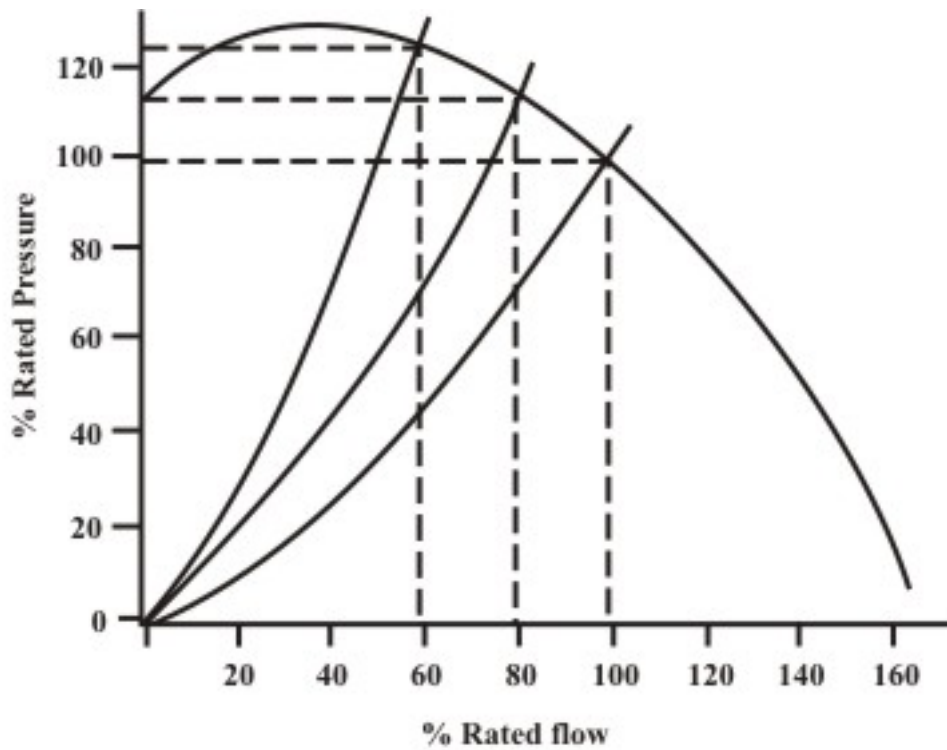
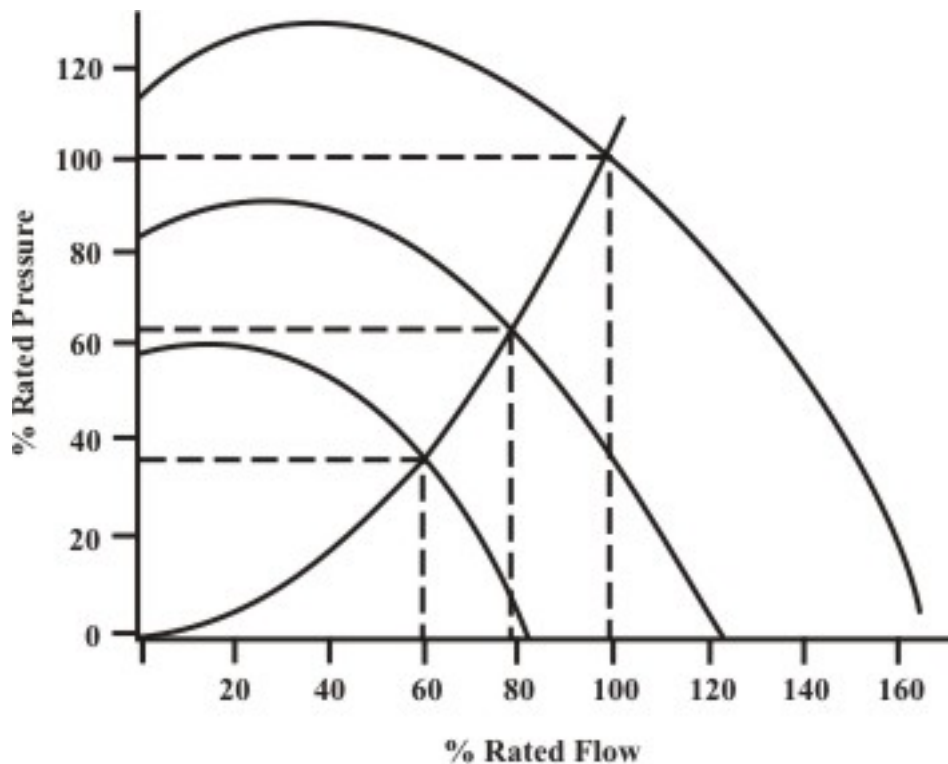

Fig. 31.5 Variations of System Pressure -Flow Characteristics with outlet dampers.
Fig. 31.7 Variable Speed Method
where P is the pressure required to produce a given flow Q in the system. K is a characteristics of the system that represents the resistance to airflow. For different values of outlet vane opening, different values of K are obtained. Fig. 31.5 shows several different system curves indicating different outlet damper positions.
The power requirement can be derived from computing the rectangular areas shown in Fig. 31.5 at any operating point. Figure 31.7 shows the corresponding variations in power requirement for this type of operation. From the figure it can be seen that the power decreases gradually as the flow is decreased.
- A. Can you identify, which of three system curves shown in Fig. 31.5 correspond to the maximum opening of the output damper?
- B. Assume that the pressure-flow curve C shown in Fig. 31.5 represent the characteristics of the output element of the system. Then,
where N = Fan Speed, Q = Volume Flow Rate, P = Pressure, W = Power. Note that eliminating speed from the above equations gives back the law, $P = K \times Q^2$ for the system. Thus, by this method, the operating point for a given system load shifts along the system characteristic curve as the speed of the fan is varied. Fig. 31.7 is a representation of the variable speed method.
Fig. 31.7 shows the significant reduction in horsepower achieved by this method. Thus, in this method a desired amount of flow is achieved with the minimum of input power. The other two